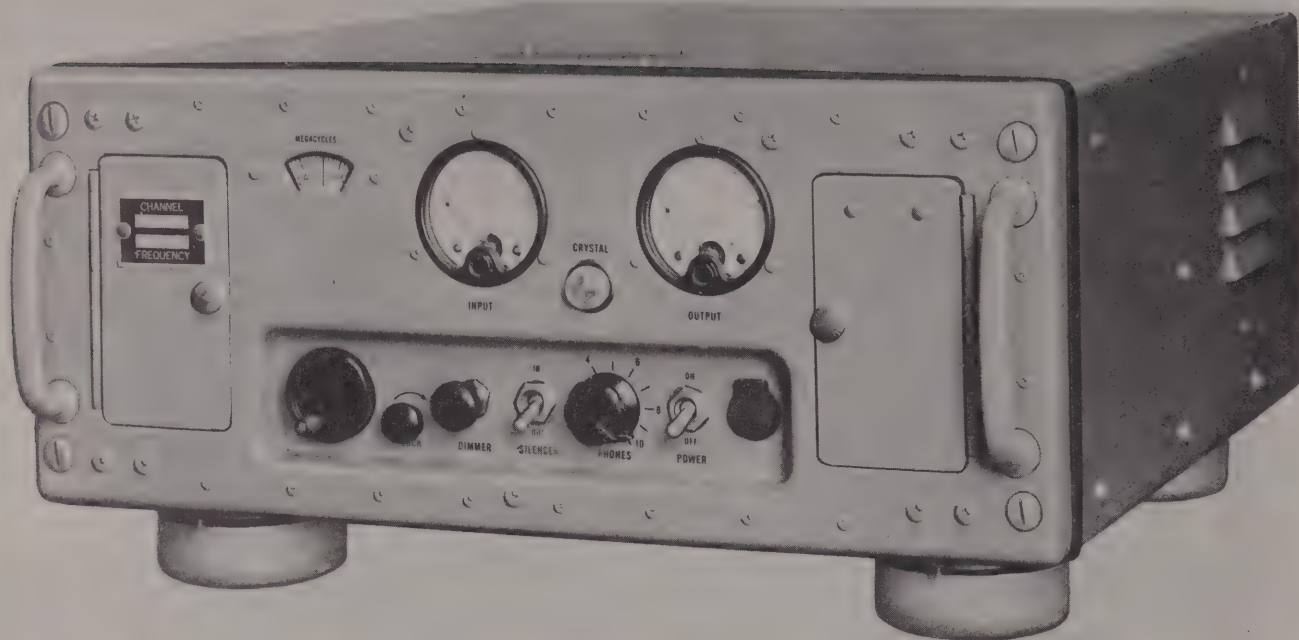

Figure 1-2. Radio Receiver R-482/URR-35, Front View
All primary operating controls and the meters are mounted on the front panel; see figure 1-2. The crystal, the fuses and those controls which require only periodic change for operational adjustments are in panel compartments accessible through hinged doors. Trimmer adjustment controls are readily accessible when the chassis assembly is removed from the cabinet. Trimmer adjustments in the r-f amplifier and oscillator-multiplier sections are accessible through holes located in the casting walls and in the top cover shields of the preselector unit. Trimmer adjustments for circuits in the i-f section are located at the tops (accessible through holes in the shields) and bottoms of the i-f transformer assemblies. Cable connections to and from the receiver are made to connectors on the underside of the low-pass filter attached to the rear of the cabinet. A phone jack is mounted on the front panel.
a. CABINET.—The receiver cabinet is fabricated from an aluminum alloy and finished in a gray enamel; see figures 1-2 and 1-3. Guide rails, located on the bottom of the cabinet, permit easy withdrawal of the panel-and-chassis assembly. When installed in a standard relay rack, the angle brackets used for mounting it are attached to the sides of the cabinet and the four shockmounts are removed. When the cabinet is arranged for table mounting, these brackets are detached and four shockmounts are bolted to the bottom of the cabinet in their stead. Ventilation is provided, through dust filters and louvers on either side of the cabinet, by means of an internal blower.